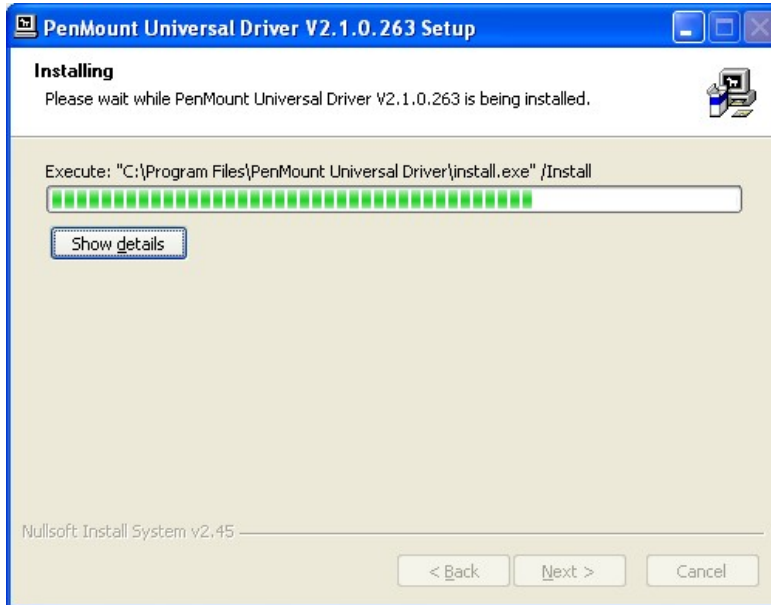

Figure 5-25: Touch Screen Driver Installation Screen
Step 10: The **Install** screen appears and displays the progress of the installation (Figure 5-25).